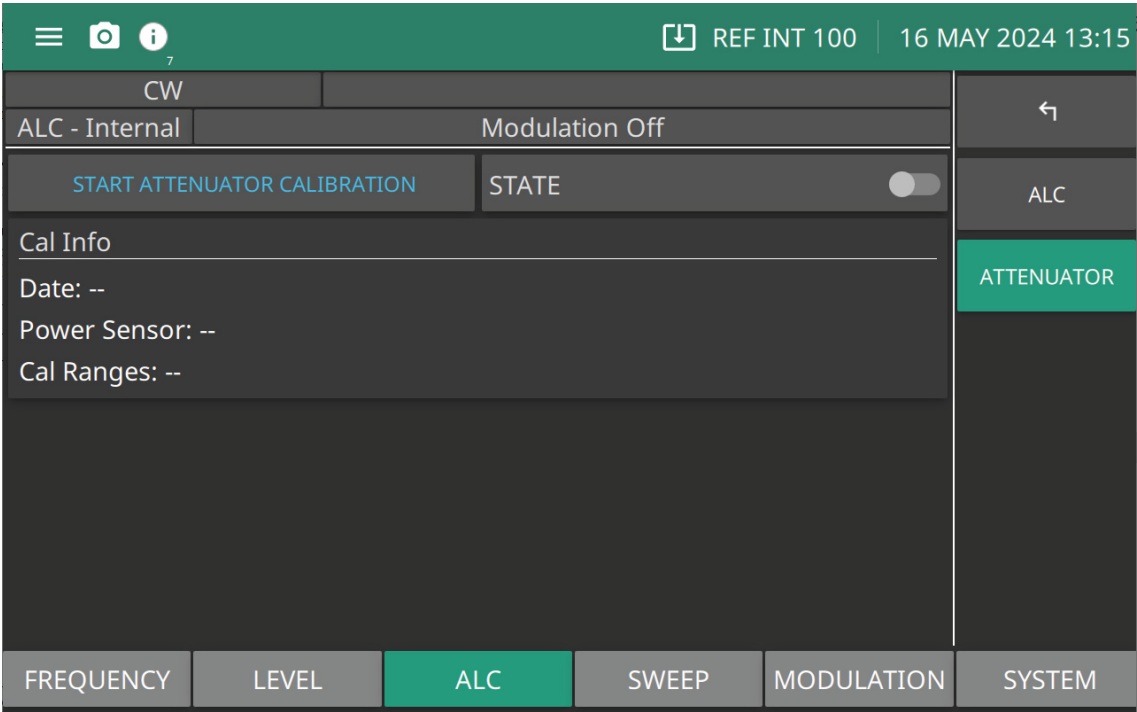

Figure 3-45. ATTENUATOR Menu
Use the ALC level cal menu as described in “Level Calibration” on page 3-37 to calibrate the first calibration steps for units with Option 2. Then use the ATTENUATOR menu shown in Figure 3-45 to calibrate to power levels to –60 dBm.
- 6. Press START ATTENUATOR CALIBRATION on the ATTENUATOR menu shown in Figure 3-45.